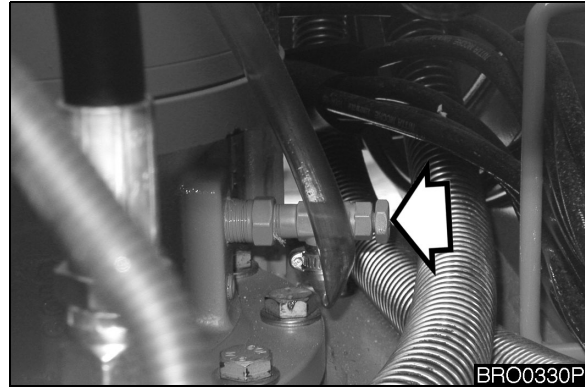

Figure 23
5. If the oil level exceeds the "H" mark on the dipstick, remove drain plug (Figure 23) and drain the excess oil into a suitable container.